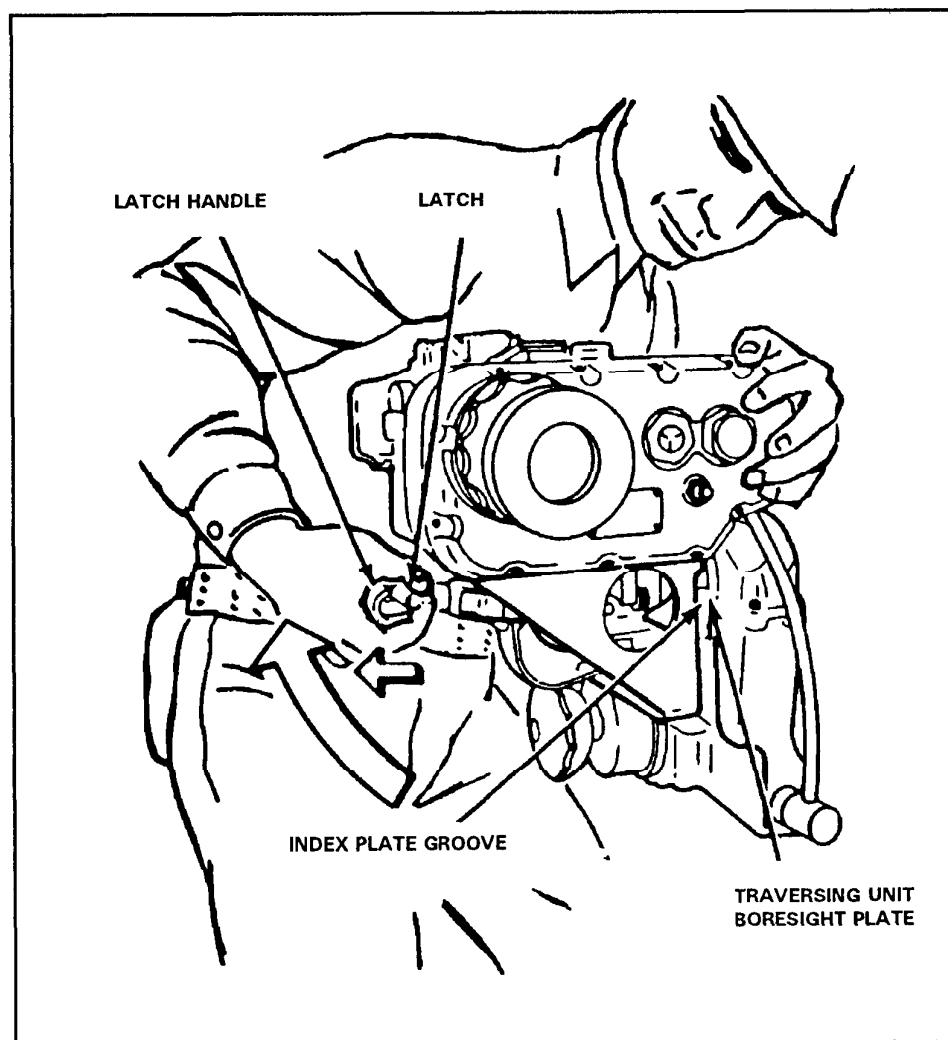
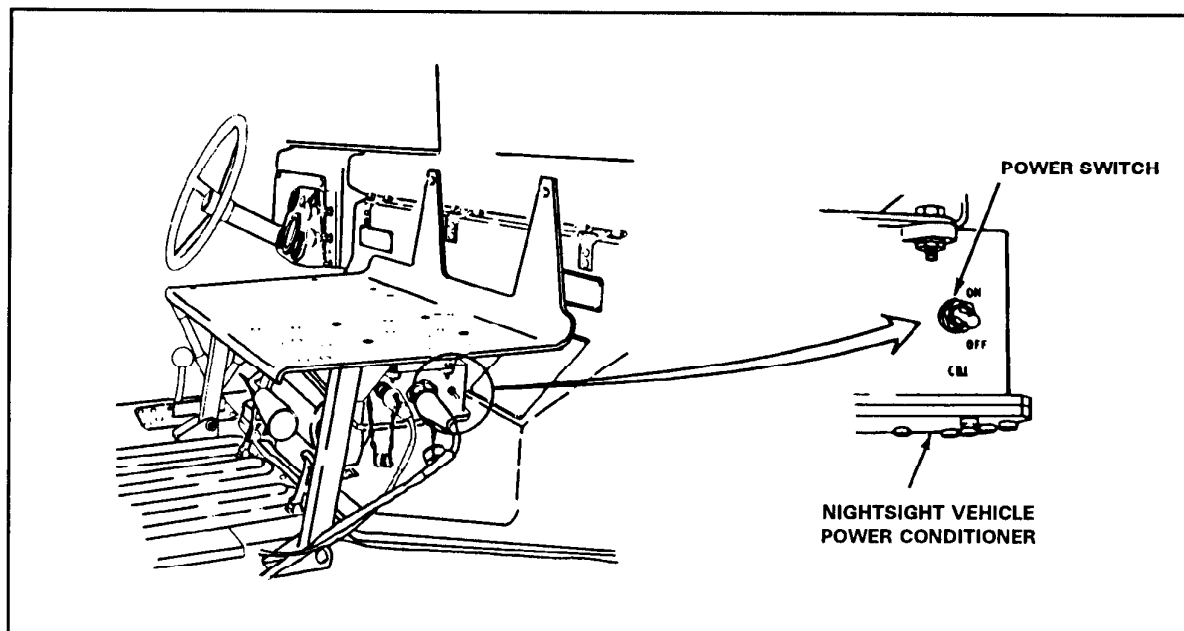
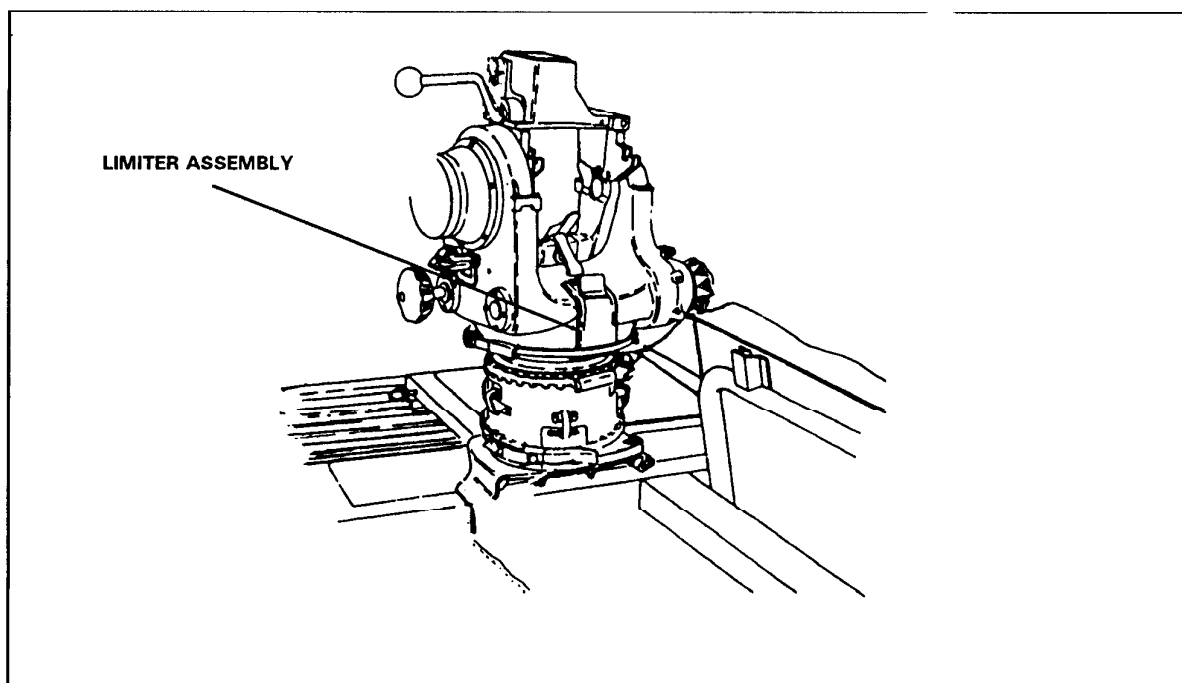

Figure 3-11. Daysight tracker on traversing unit boresight plate.
Figure 3-12. Nightsight power cable 2W2, J1 connector, and vehicle power conditioner.
Figure 3-13. Limiter assembly location.
- (1) The driver-loader hands the daysight tracker to the gunner.
- (2) The gunner mounts the daysight tracker on the traversing unit boresight plate. He secures the daysight tracker by locking the latch handle (Figure 3-11, page 3-12).
- (3) The driver-loader stows the nightsight case in its bracket.
- (4) The squad leader connects connector P2 of the TVPC power cable to the power conditioner cable.
- (5) The squad leader unwinds the nightsight power conditioner cable and TVPC cable and hands both to the gunner.
- (6) The gunner connects the nightsight power cable 2W2 to the nightsight input power conditioner J1 (Figure 3-12, page 3-13), then connects the TVPC power cable P1 to connector J1.
- (7) The squad leader turns on the TVPC.
- (8) The gunner turns on the power conditioner.
- (9) The gunner checks steps 10 through 15 of system self-test on TOW 2 (positions 1 and 7 on basic TOW), then collimates the nightsight.
**NOTE:** The limiter assembly limits elevation to 20 degrees and depression to 10 degrees. If the limiter is used, the gunner makes sure both elevation and depression limiters are in the up position and pinned (Figure 3-13, page 3-13).